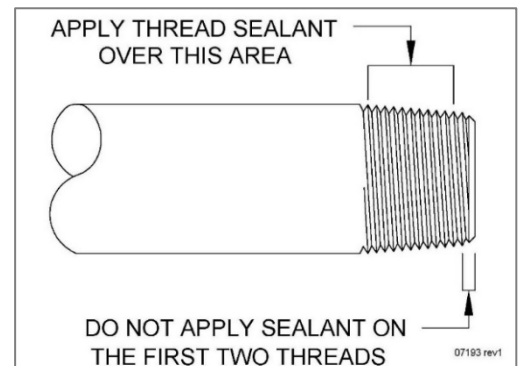

Figure 10 – Applying Thread Sealant
Assemble fuel filter as shown in Figure 31. Ensure to use thread sealant as described in Figure 10.
Apply thread sealant to the nipple threads as illustrated in Figure 10 to minimize fuel line contamination. Install the regulator subassembly to the safety shut-off valve through the opening on the floor of the instrumentation enclosure.
2. Apply thread sealant to the fuel line threads as illustrated in Figure 10 to minimize fuel line contamination.